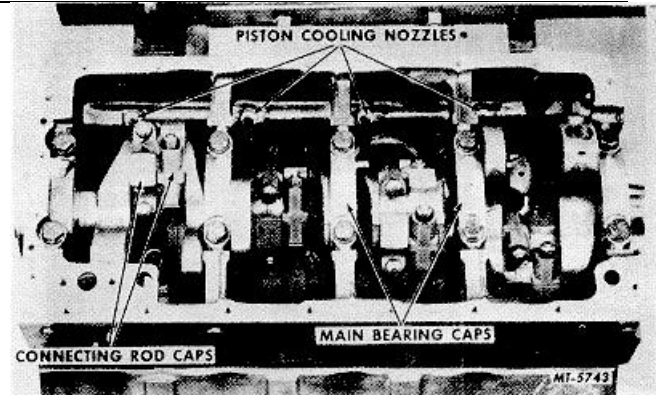

Fig. 78 Crankshaft Bearing Caps and Piston Cooling Nozzles
69. Rotate crankshaft to position the journals for removal of connecting rods assemblies and piston cooling nozzles (Figure 78).